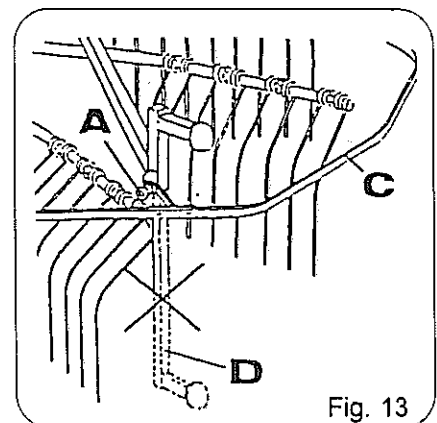

Fig. 13
The removable rest support is required only for parking in the barn in the transport position and must without fail be taken out of the holder before beginning work (fig. 13, pos. D). To do this, loosen the tommy screw (fig. 13, pos. A). Fold down the protective frame again (fig. 13, pos. C) and lock in position again with the tommy screw (see warning symbol page 19, pos. O).
- Fold down the protective frame (fig. 13, pos. C, see also warning symbol page 20, Pos. O)
- Remove the protective caps on the tine ends (fig. 13, pos. G).